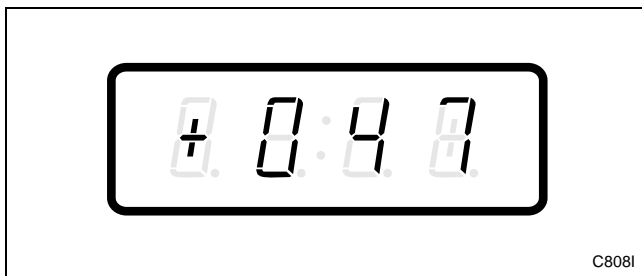

Figure 136
3. Press the DELICATES (+) or the COLD (-) keypad to scroll through the programmable options until “+047” appears in the VFD. Refer to *Figure 136*.